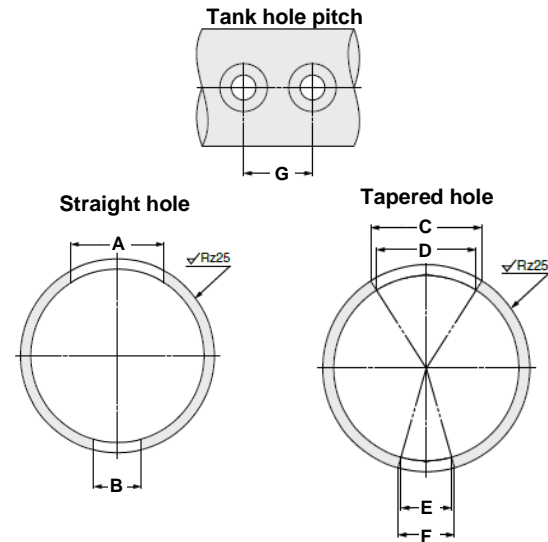

Fig.5
- It is recommended that the tank be constructed from ANSI SCH40 pipe (or pipe of equivalent strength). If a custom tank is to be fabricated suitably rated material should be used. For recommended tank hole dimensions and spacing, see Fig.5.